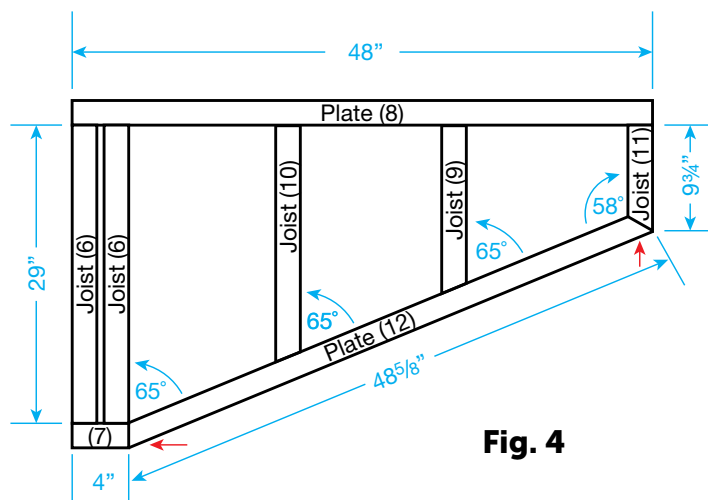

Fig. 4
Step 1: Following Fig. 4, assemble the perimeter of the ceiling (Items #6, #7, #8, #11, & #12).
NOTE: Pre-drilling pilot holes for the screws is recommended at locations marked on Fig. 4 (marked in red).
Step 3: To figure out the location for the ceiling's inner joists (Items #9 & #10, shown in Fig. 4) so they'll align with the Component Wall's studs, measure the distance of the Component Wall's studs from outer stud in.